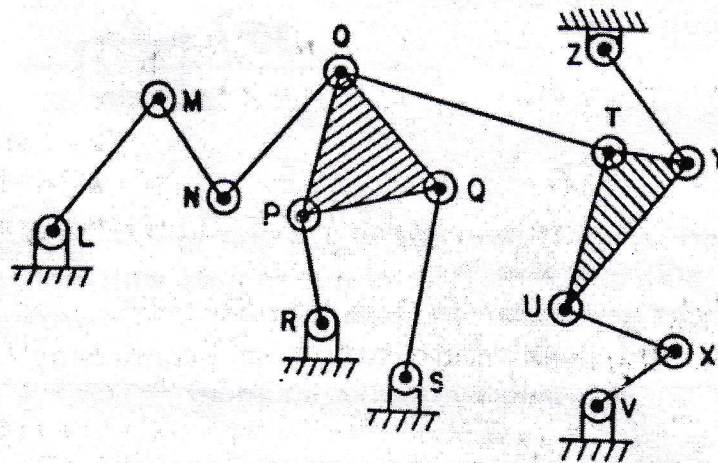

Figure 1
b) Determine DOF of following mechanism shown in figure 1